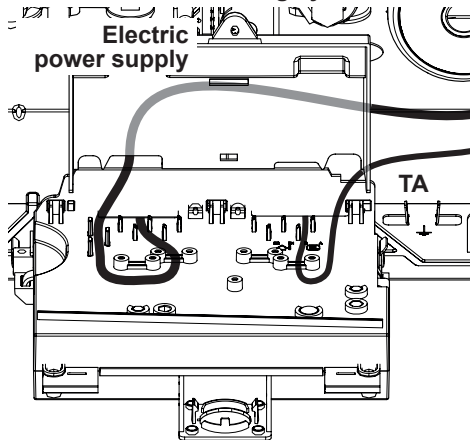

Figure 5.20
- Connect the electric power supply cable to the all-pole switch, respecting the correspondence of the power line (brown wire) and the neutral (blue wire) Figure 5.20.